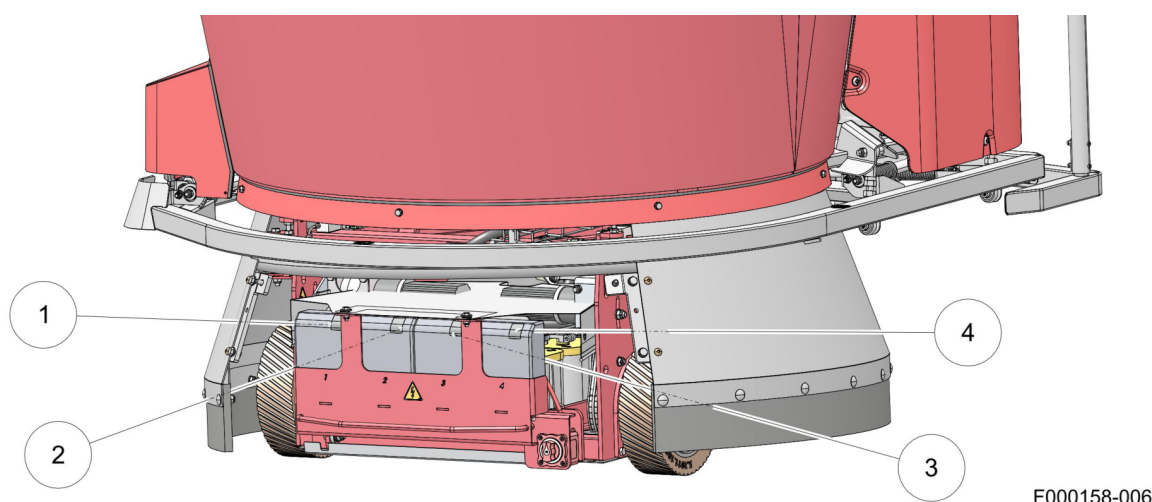

Figure 53. Battery chargers
3. Look at the four battery chargers (1) - (4) (see figure 53 on page 7-17) and make sure the orange and green led are both on, on all chargers. Call your Lely service technician: